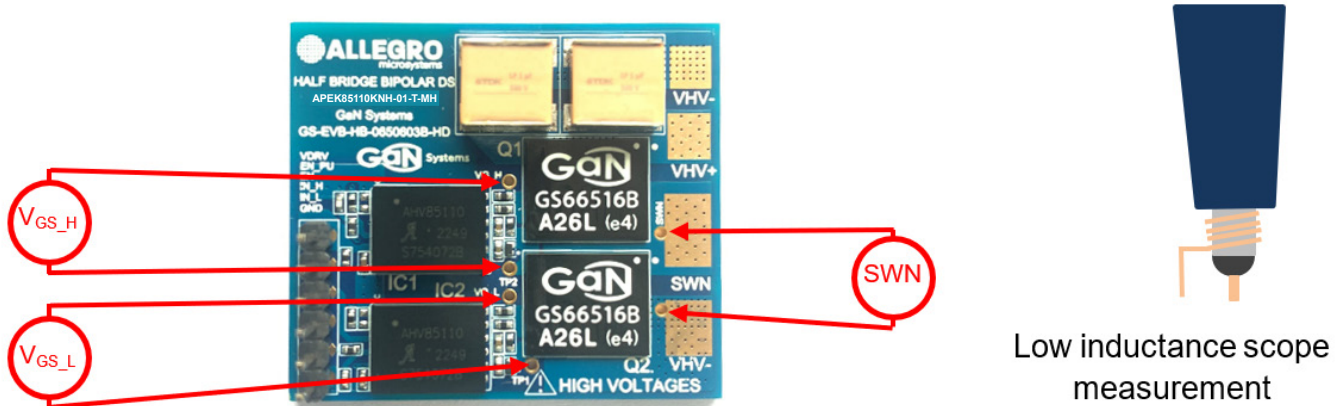

Figure 5: Measurements Points
4. Convenient test points are located on the test board as shown in Figure 5 below. A suitable differential oscilloscope should be used to monitor the high-side gate signal from VGH to VSW.
The APEK85110KNH-01-T-MH EVM contains convenient test points for monitoring the high- and low-side gate drives as well as the switch node as shown in Figure 5 below.